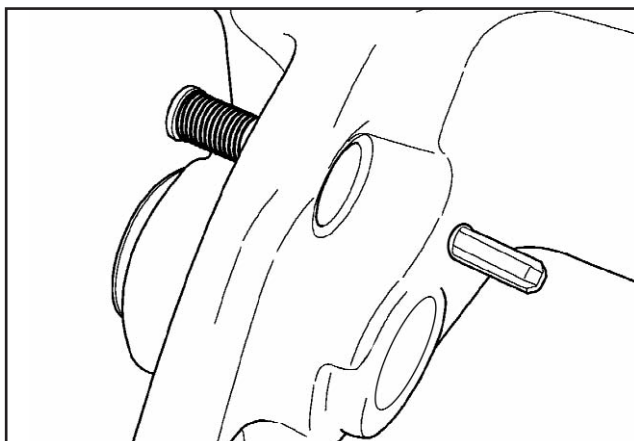
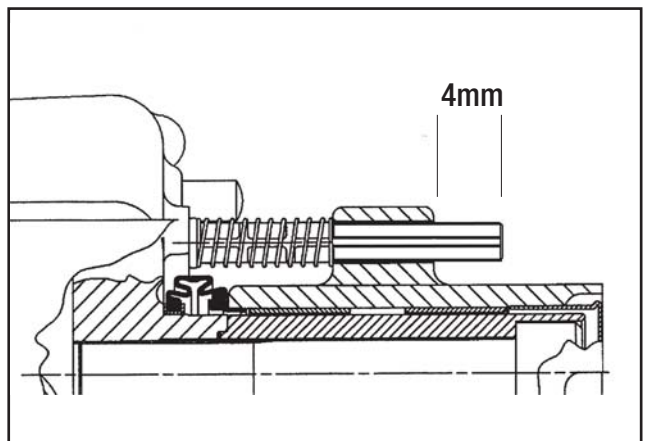

Fig 2.16
Fig 2.17
- A visual wear indicator (Fig 2.16).
In a new pad condition the end of the indicator stem will extend past the edge of the housing casting (Fig 2.16). When the amount protruding from the casting reduces to a measurement of 4 mm (Fig 2.17) then detailed examination of the pad material remaining is required.